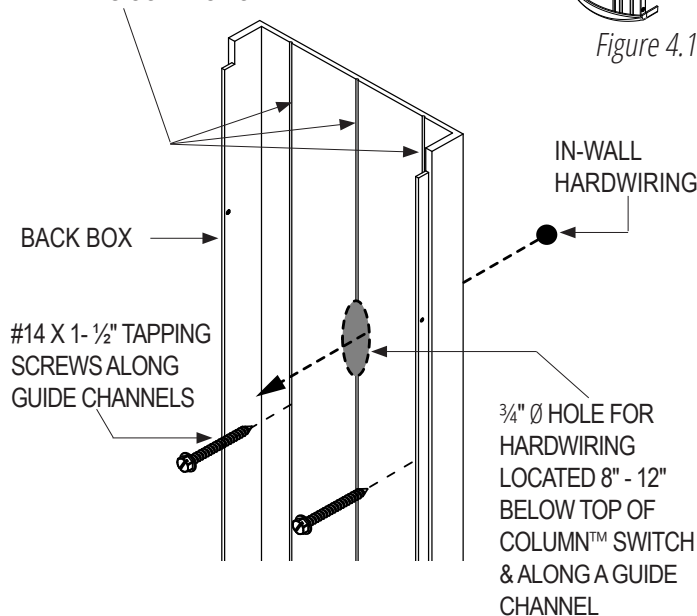

Figure 4.2 Guide Channels
6. Drill the mounting screw holes on the Back Box using drill bit 17/64" for either #14 tapping screws or 1/4"-20 machine screws. (Figure 4.2 and 4.3)
8. Drill the  $\frac{3}{4}$ "  $\varnothing$  hole on the Back Box for hardwiring connection. (Figure 4.2 and 4.3)